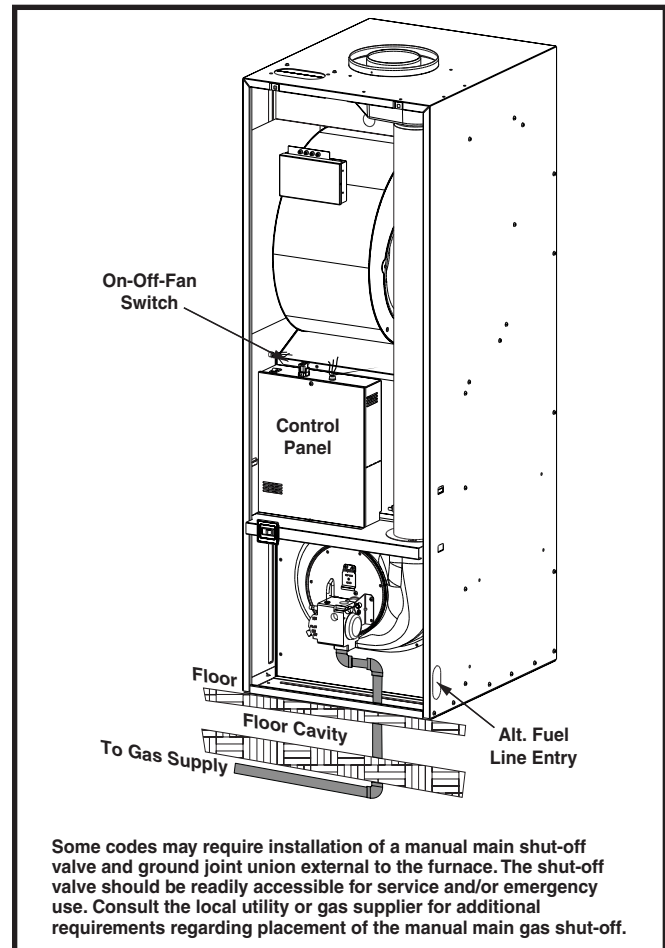

Figure 26. Typical Gas Piping
This furnace may be installed with left, right, or bottom gas entry. When connecting the gas supply, provide clearance between the gas supply line and the entry hole in the furnace casing to avoid unwanted noise and/or damage to the furnace. Typical gas service hookup for this furnace is shown in Figure 26 (page 15).
- Some local regulations require the installation of a manual main shut-off valve and ground joint union external to the furnace. See Figure 26 (page 15). The shut-off valve should be readily accessible for service and/or emergency use. Consult the local utility or gas supplier for additional requirements regarding placement of the manual main gas shut-off.
- Fuel line installations other than typical installations shown in Figure 26 \(page 15\) must comply with the fuel piping provisions stated in the Federal Manufactured Home Standard (H.U.D. TITLE 24, PART 3280) and the National Fuel Gas Code (ANSI-Z223.1/NFPA-54).